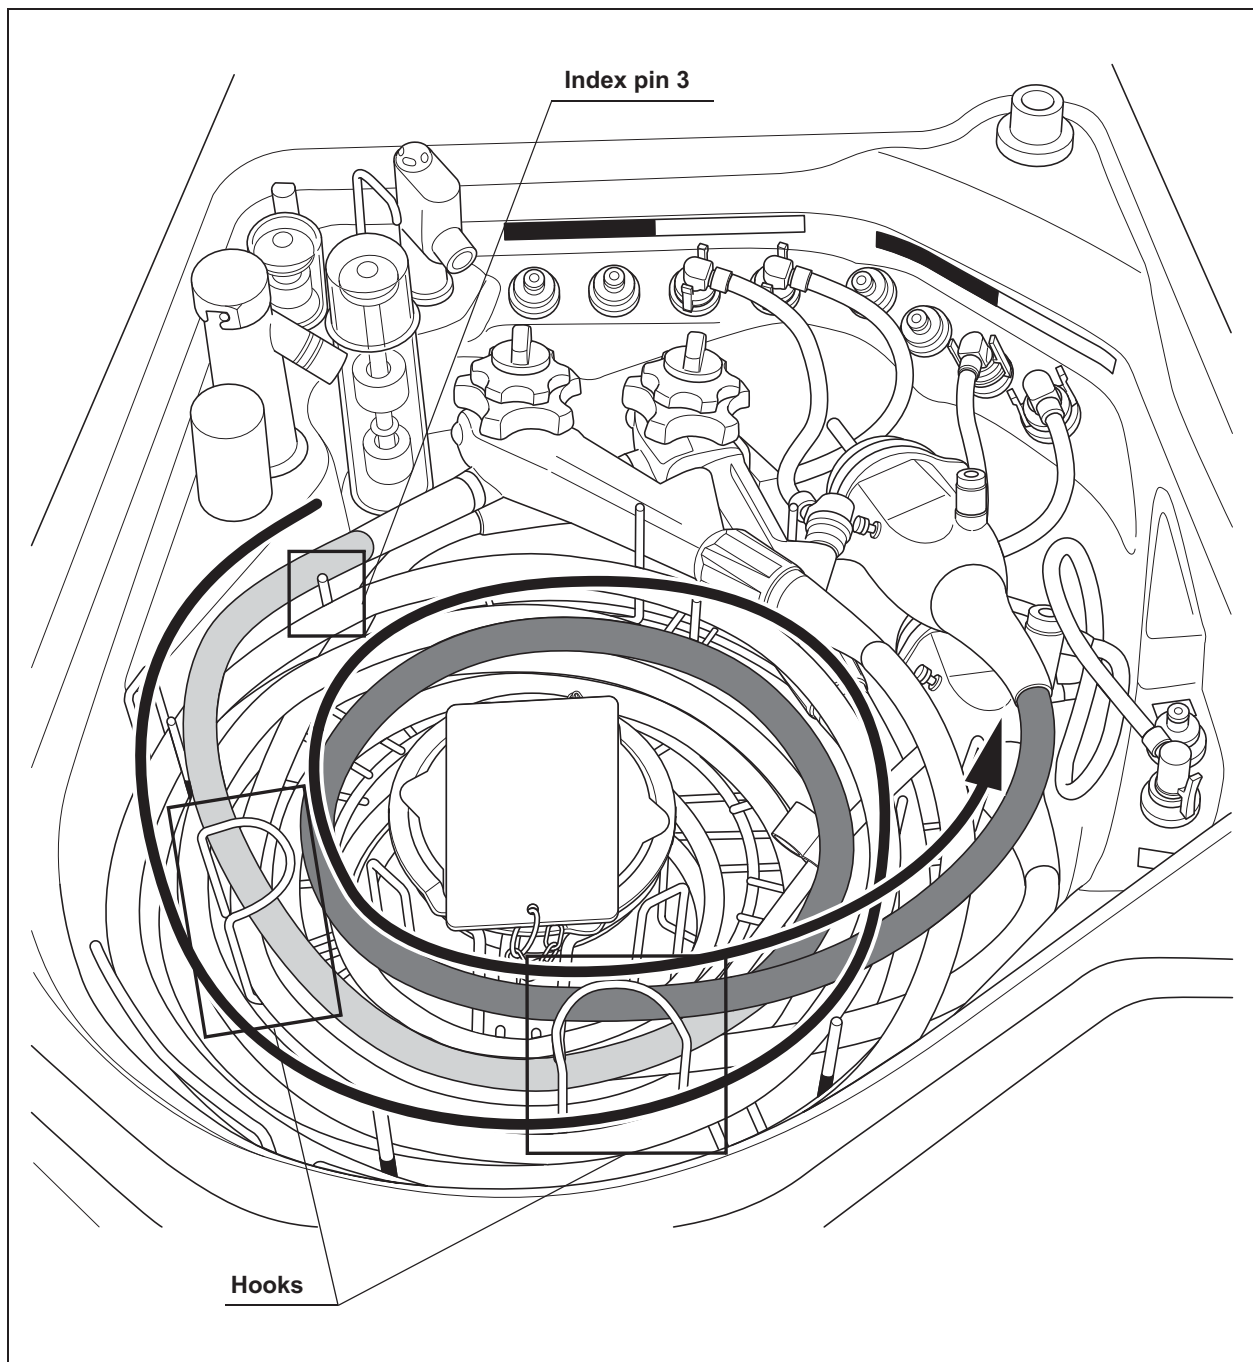

Figure 6.37
- 5** Wrap the universal cord (light and deep gray) in a counterclockwise direction on the left of index pin 3 in the inside section (for detail, refer to the Figure 6.37) on the retaining rack by placing it under the hooks so that it will not move upward. If the scope ID tag is attached to the endoscope, move the scope ID tag toward the endoscope connector. Straighten the ID tag's band if it is twisted. Do not wrap the universal cord of second endoscope on the AW channel cleaning adapters.